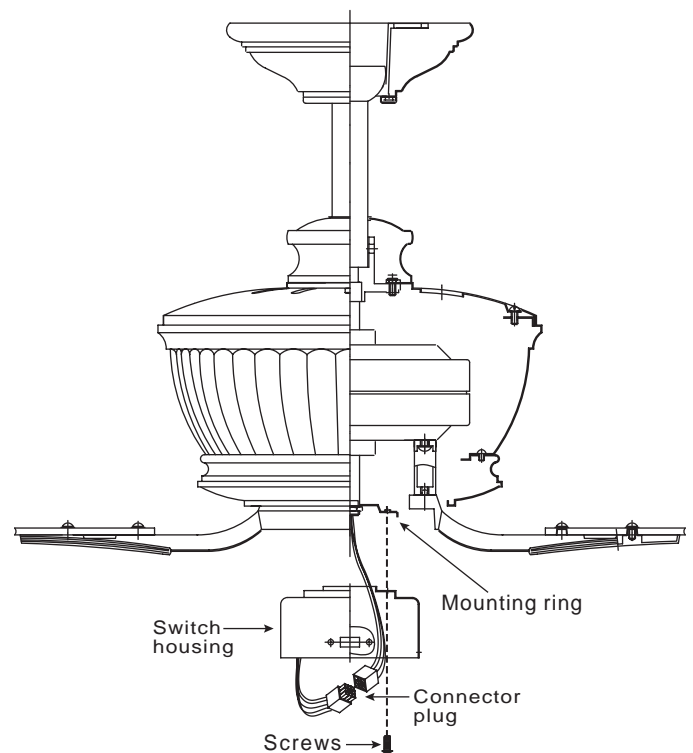

Figure 15
**Step 3.** Place the key holes on the switch housing over the 2 screws previously loosened from the mounting ring, turn switch housing until it locks in place at the narrow section of the key holes. Secure by tightening the 2 screws previously loosened and the one previously. (Fig. 15)